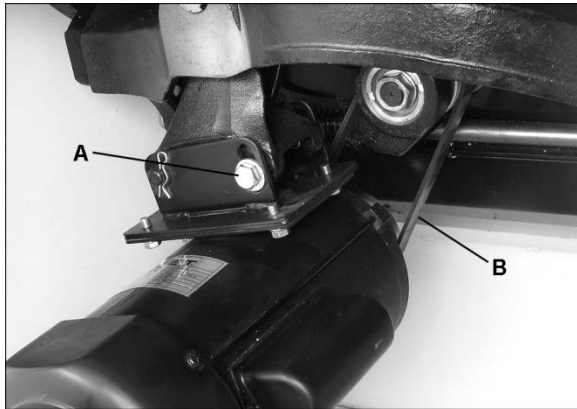

Figure 22
3. Loosen bolt (A, Figure 22).
4. Take tension off belt (B) by lifting up on motor.
6. Install new belt. The weight of the motor should apply sufficient tension to belt. Tighten bolt (A, Figure 22).